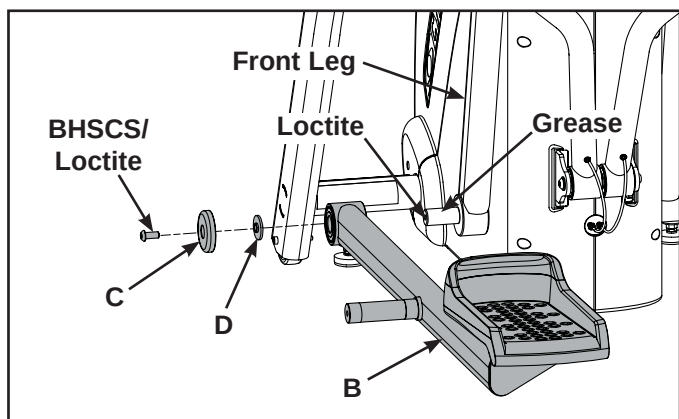

Figure 5
- A. Using a 7/32" Allen wrench, remove the BHSCS, plastic end cap and spacer securing the foot bar to the front leg. See Figure 5.
- A. Place grease on the outside of the front leg shaft. See Figure 5.
- B. Place the new foot bar (A) or (B) into position on the front leg.
- C. Place a drop of loctite (E) on the BHSCS and another drop inside the shaft into where the BHSCS will be tightened.
- D. Using a 7/32" Allen wrench, install the BHSCS/loctite, new plastic end cap (C) and new spacer (D) as shown in Figure 5.